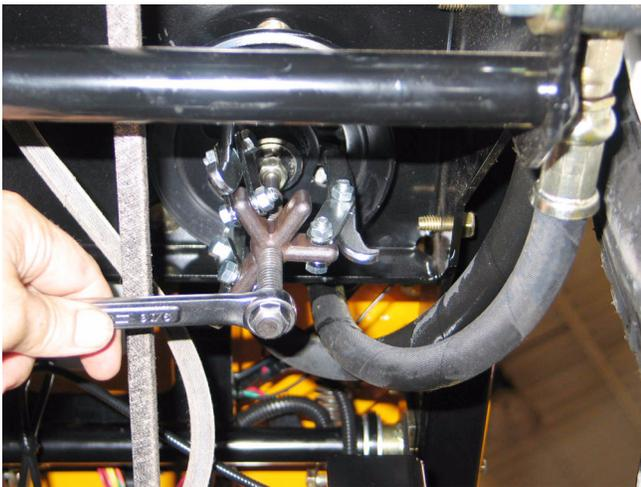

Figure 25.5
- 25.5. Install a small three-jaw puller to remove the pulley from the shaft. See Figure 25.5.